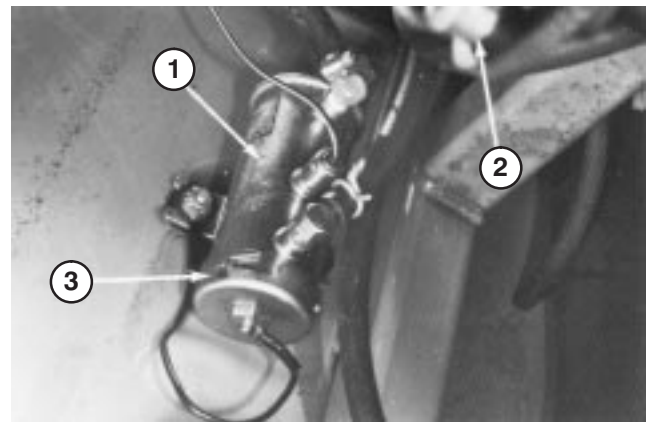
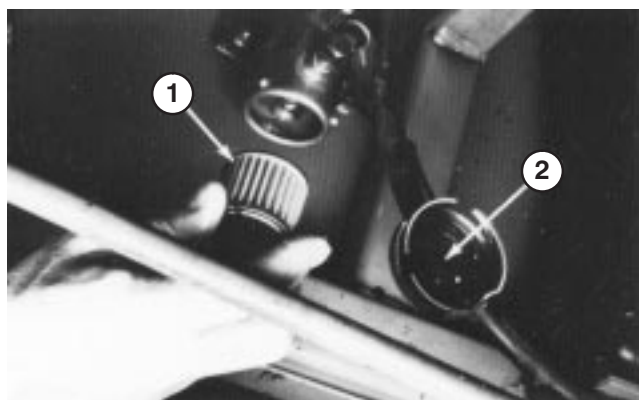

Figure 44
Figure 45
1. Fuel pump is located on inner frame bulkhead to left of drive coupling assembly (Fig. 44).
3. Place a drain pan under fuel pump and remove cover from fuel pump with 17 mm wrench (Fig. 44). Take care not to damage wire while removing cover.
4. Pull filter out of pump body (Fig. 45).
6. Clean magnet of any residue (Fig. 45), insert filter into body, and install cover (Fig. 44).